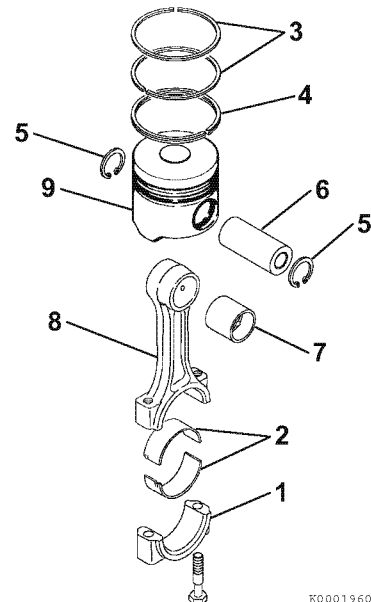

Figure 6-55
5. Remove the bearing inserts (Figure 6-55, (2)).
6. Remove the compression rings (Figure 6-55, (3)) from the piston using a piston ring expander.
7. Remove the oil ring (Figure 6-55, (4)) from the piston using a piston ring expander.
8. Remove the circlips (**Figure 6-55, (5)**) from the wrist pin.
9. Remove the wrist pin (**Figure 6-55, (6)**) and connecting rod (**Figure 6-55, (8)**) from the piston (**Figure 6-55, (9)**).